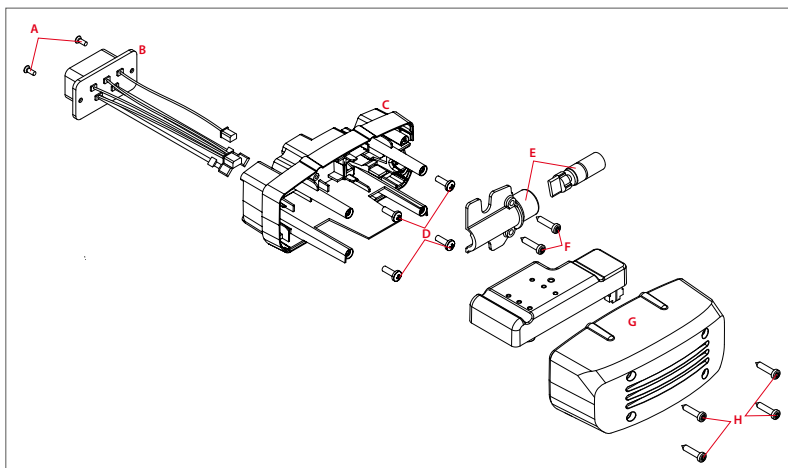

Figure 4.30 Assembly of carrier docking station
1. Use two 3 x 14 self-tapping fasteners [A] to mount the battery socket [B] to the docking station [C] (Fig. 4.30).
2. Use four 3.5 x 16 self-tapping fasteners [D] to mount the docking station [C] to the carrier (Fig. 4.30).
3. Use two 4 x 20 self-tapping fasteners [F] to mount the lock [E] to the docking station [C] (Fig. 4.30).
4. Use two 4 x 20 self-tapping fasteners [H] to mount the docking station cover [G] to the docking station [C] (Fig. 4.30).